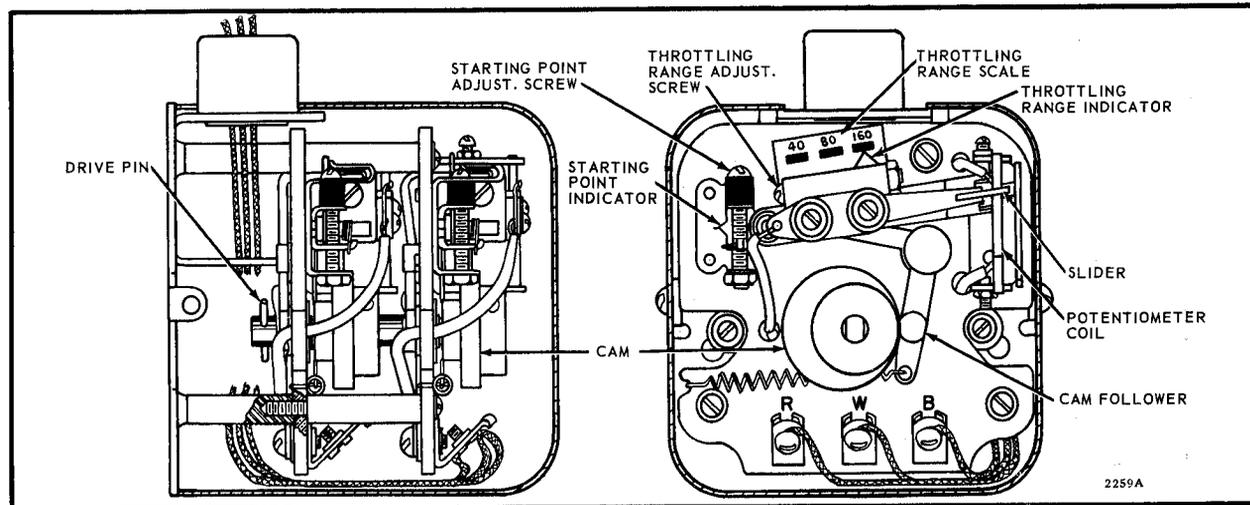

FIG. 5—INTERNAL VIEW OF A TWO POTENTIOMETER Q181.
2. Make certain that the cam follower is on the low side of the cam, as shown in Fig. 5. Fit the drive pin coupling over the drive pin and put the Q181A in place on the master motor. The drive pin shaft should engage the shaft coupling.
The point in the rotation of the master motor at which the auxiliary motor starts its travel in one direction or completes its travel on the return stroke. The starting point is determined by the starting point adjustment screw (see Fig. 5) and is adjustable between 0 and 120 degrees.
The rotation on the master motor required to drive the Q181A potentiometer through its full travel, which in turn drives the auxiliary motor through its full travel. The throttling range is determined by the throttling range adjustment screw (see Fig. 5) and is adjustable from 40 to 160 degrees of the master motor rotation.
- a. Turn the throttling range adjustment screw (Fig. 5) slightly clockwise . The indicator should move slightly to the left on the scale. This shortens the throttling range so that the auxiliary motor will open fully.
1. Turn the throttling range adjustment screw (Fig. 5) until the indicator is positioned properly on the scale.